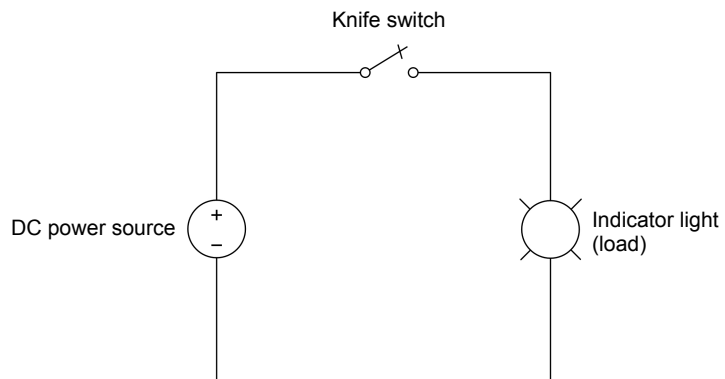
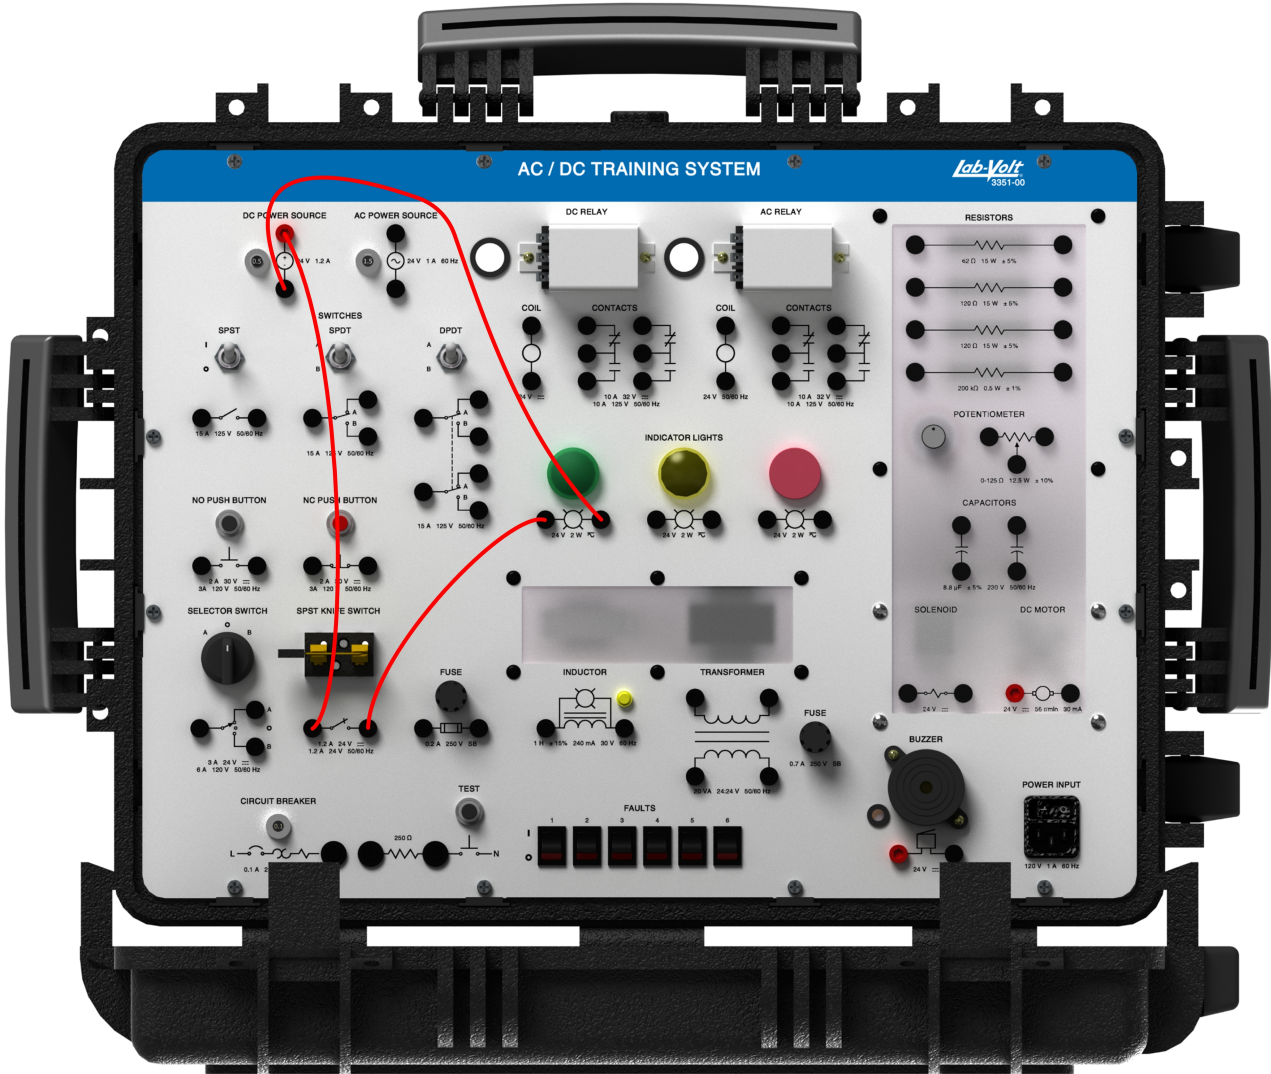
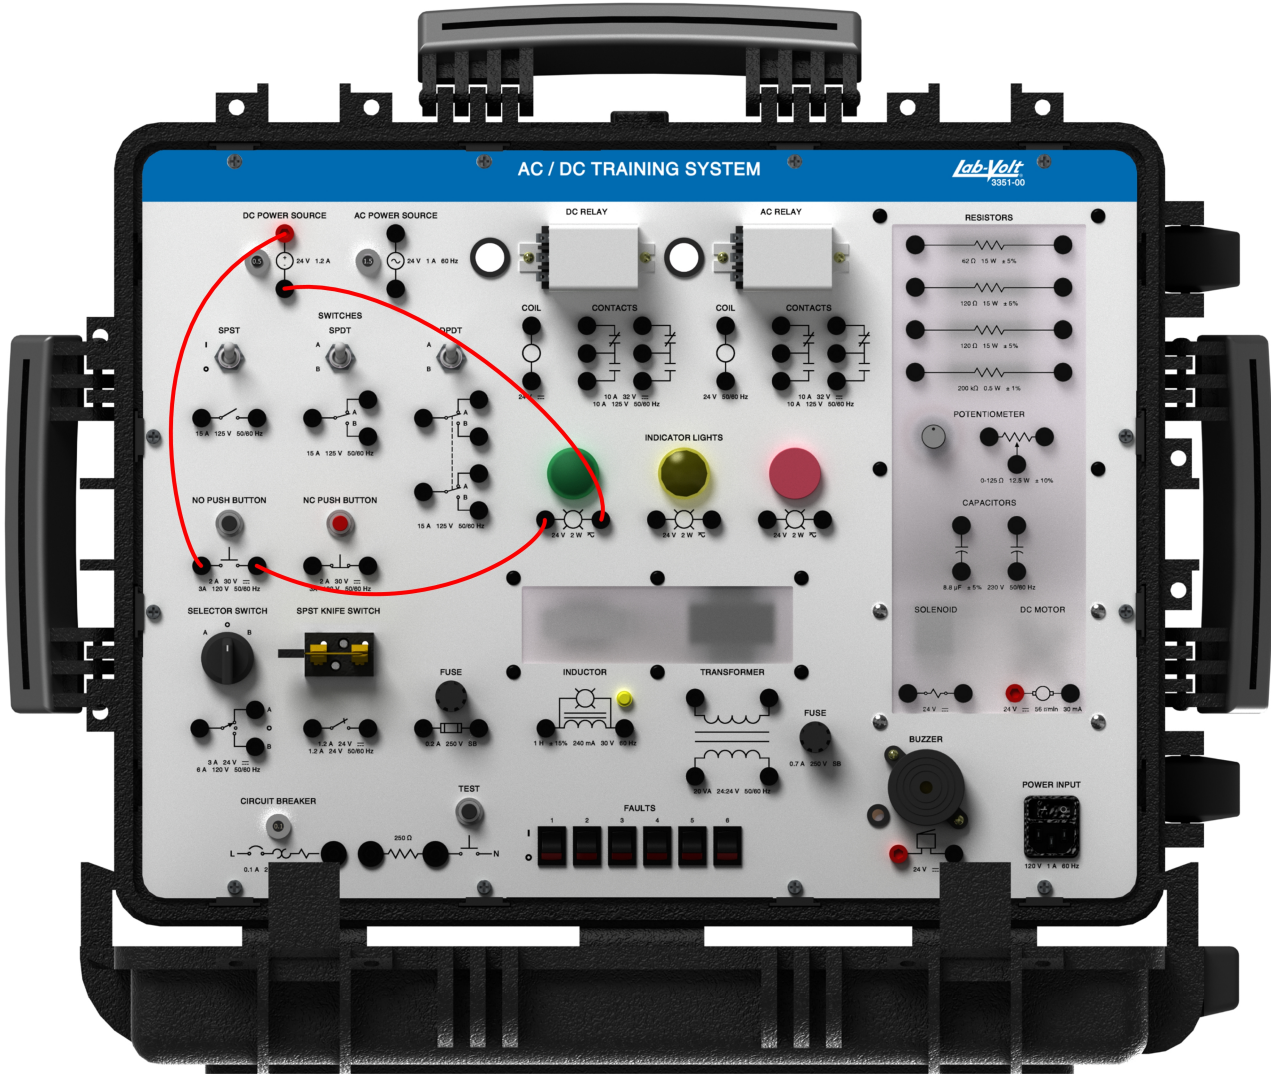

Figure 27. DC power source connected to an indicator light and a knife switch (circuit diagram).
Figure 28. DC power source connected to an indicator light and a knife switch (wiring diagram).
Figure 30. DC power source connected to an indicator light and an NO push-button switch (wiring diagram).
4. Connect the equipment as shown in Figure 27. Figure 28 shows the corresponding wiring diagram. Make sure that the knife switch is in its open position, i.e., that the metal lever of the switch is not inserted in the slot.
9. In the circuit of Figure 27, replace the knife switch by a normally open (NO) push-button switch. This results in the following circuit. Figure 30 shows the corresponding wiring diagram.